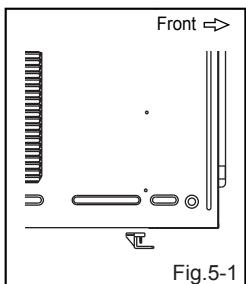

Fig. 5-1
- 4a. Make sure the pins on the bottom frame guide are facing the back of the unit.(Fig.5-1)